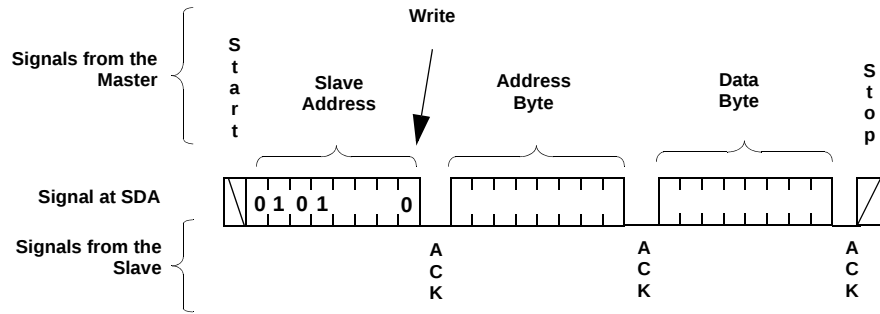
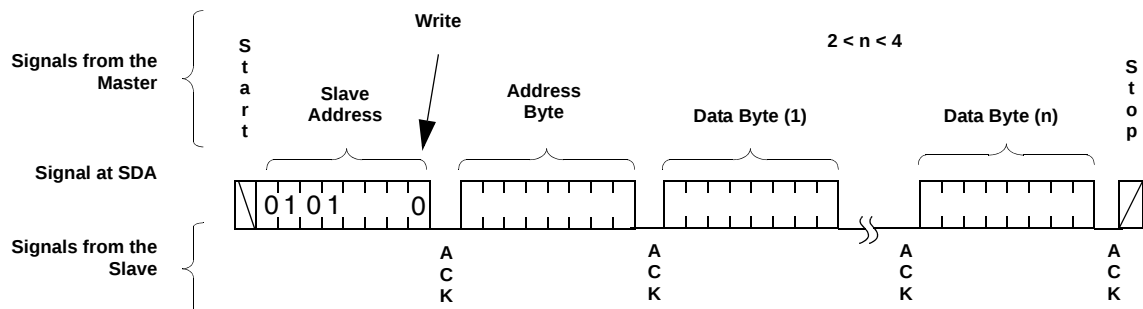

FIGURE 7. BYTE WRITE SEQUENCE
FIGURE 9. PAGE WRITE OPERATION
2. **Access the desired DR or WCR using a new write or read command** (see Figure 7 for write and Figure 9 for read.) Specify the desired column (DCP number) by sending the DCP address as part of this read or write command.
For any Byte Write operation, the X9455 requires the Slave Address byte, an Address Byte, and a Data Byte (See Figure 7). After each of them, the X9455 responds with an ACK. The master then terminates the transfer by generating a STOP condition. At this time, if the write operation is to a volatile register (WCR, or SR), the X9455 is ready for the next read or write operation. If the write operation is to a nonvolatile register (DR), and the $\overline{\text{WP}}$ pin is high, the X9455 begins the internal write cycle to the nonvolatile memory. During the internal nonvolatile write cycle, the X9455 does not respond to any requests from the master. The SDA output is at high impedance.
As stated previously, the memory is organized as a single Status Register (SR), and four pages of four registers each. Each page contains one Data Register for each wiper. Normally a page write operation will be used to efficiently update all four Data Registers and WCR in a single Write command. Note the special sequence for writing to a page: First wiper 0A, then 1B, then 1A, then 0B as shown in Figure 9.
transmit up to 4 bytes (See Figure 9). After the receipt of each byte, the X9455 responds with an ACK, and the internal WCR address is incremented by one. The page address remains constant. When the address reaches the end of the page, it "rolls over" and goes back to the first byte of the same page.